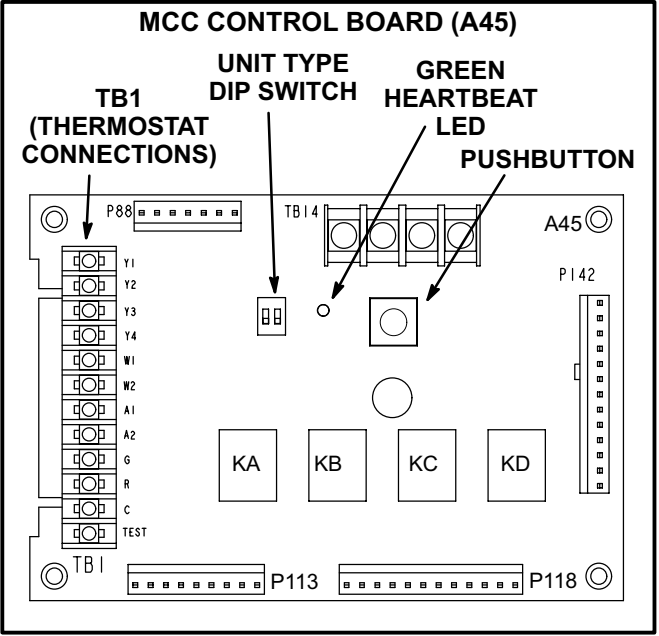

FIGURE 5
- 2- Locate green heartbeat LED on MCC board. See figure 5. LED should flash slowly to indicate normal operation. Refer to table 1 if the heartbeat LED is not flashing normally.